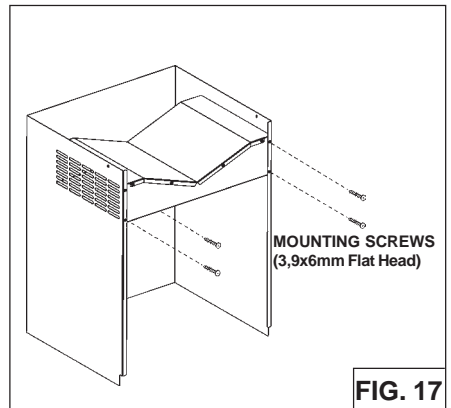

FIG. 17
2. Install the plenum to the upper decorative flue using (4) 3.9 x 6mm flat head screws provided as shown (Fig.17).